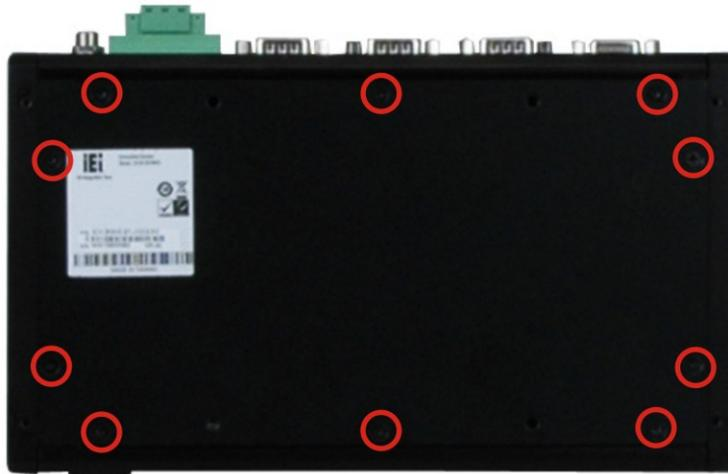

Figure 3-1: Bottom Surface Retention Screws
- Step 1:** Remove the bottom surface retention screws. The bottom surface is secured to the chassis with six retention screws (**Figure 3-1**). All 10 screws must be removed.